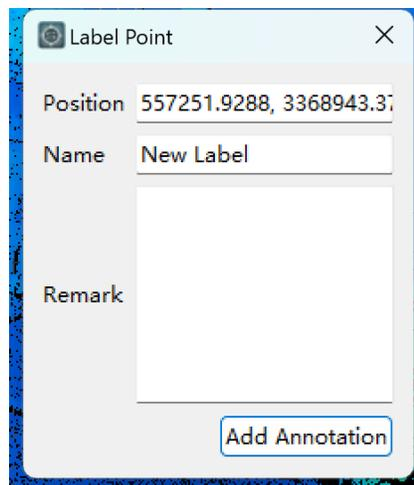

Figure 3-118 The New Annotation Point dialog box
- (1) Click the menu <Tools>→ < Label Measurement Points >.
- (2) Select a feature point in the 3D view, click the left mouse button, will pop up the dialog box of the new annotation point (Figure 3-118), which already has a point of information, you can manually name the notes.